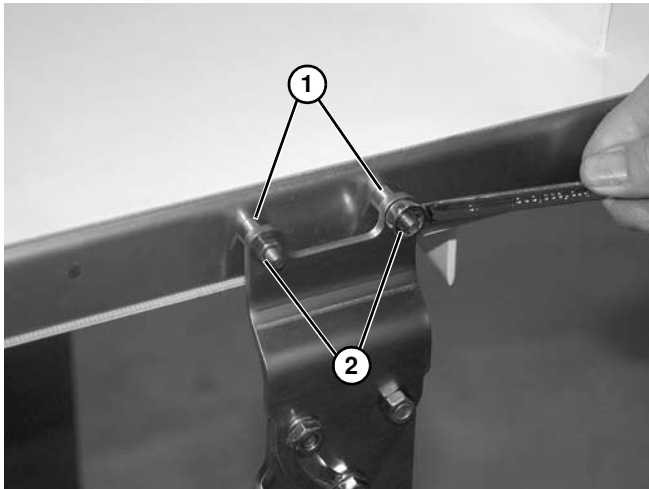

Figure 19
- Center (if applicable): Attach stand to the conveyor frame with two spacers (Figure 19, item 1) and two carriage bolts and nuts (Figure 19, item 2) on each side.